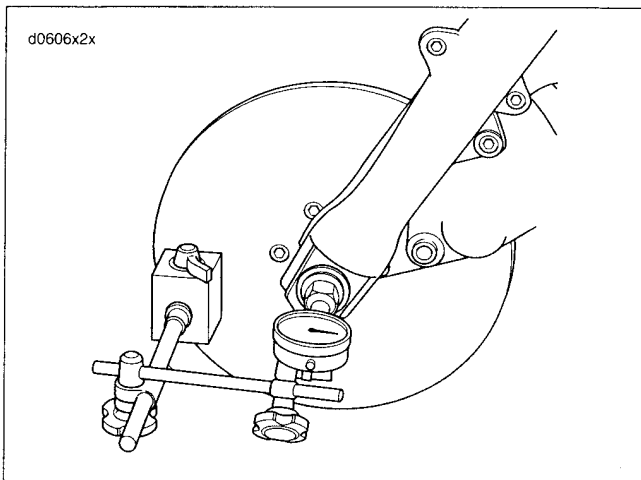

Figure 2-13. Wheel Bearing Inspection (Front Wheel Shown)
2. See Figure 2-13. Mount a magnetic base dial indicator to the brake disc with the dial's contact point on the end of the axle.